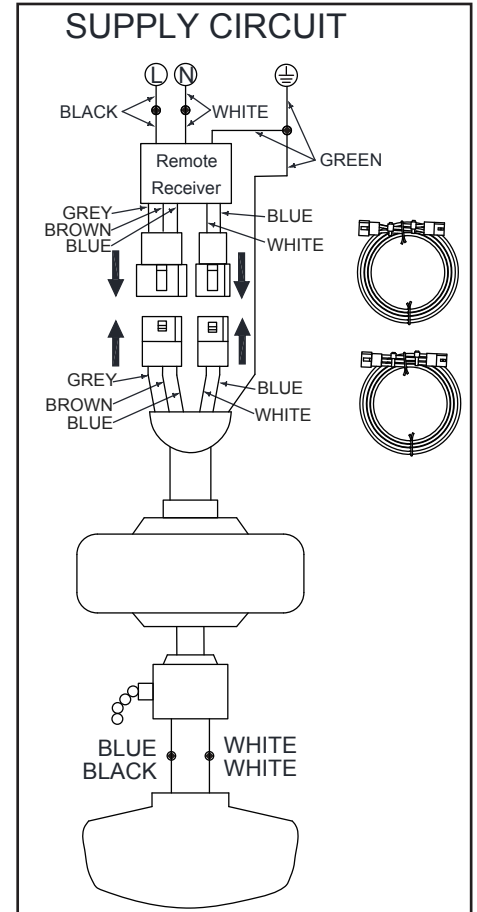

Figure 12
1. If using the 6 in. ball downrod assembly provided, wire the receiver to the fan wires by connecting the molded adaptor plug from this receiver with the molded adaptor of the fan motor assembly together. (Figure 12)